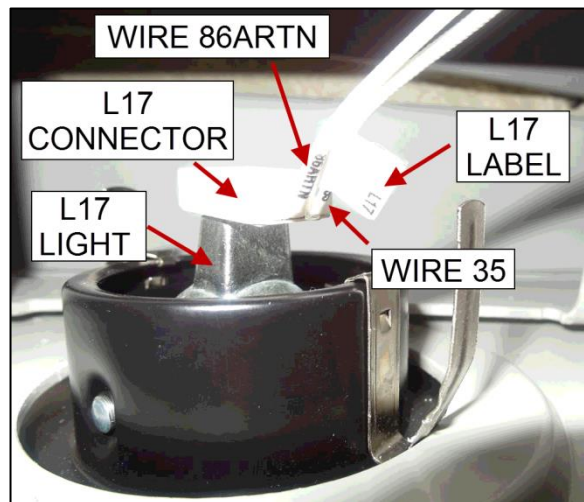

Figure 11
16. Locate wires 35 and 86ARTN of the existing L17 light inside the front RH roof (Figure 11).